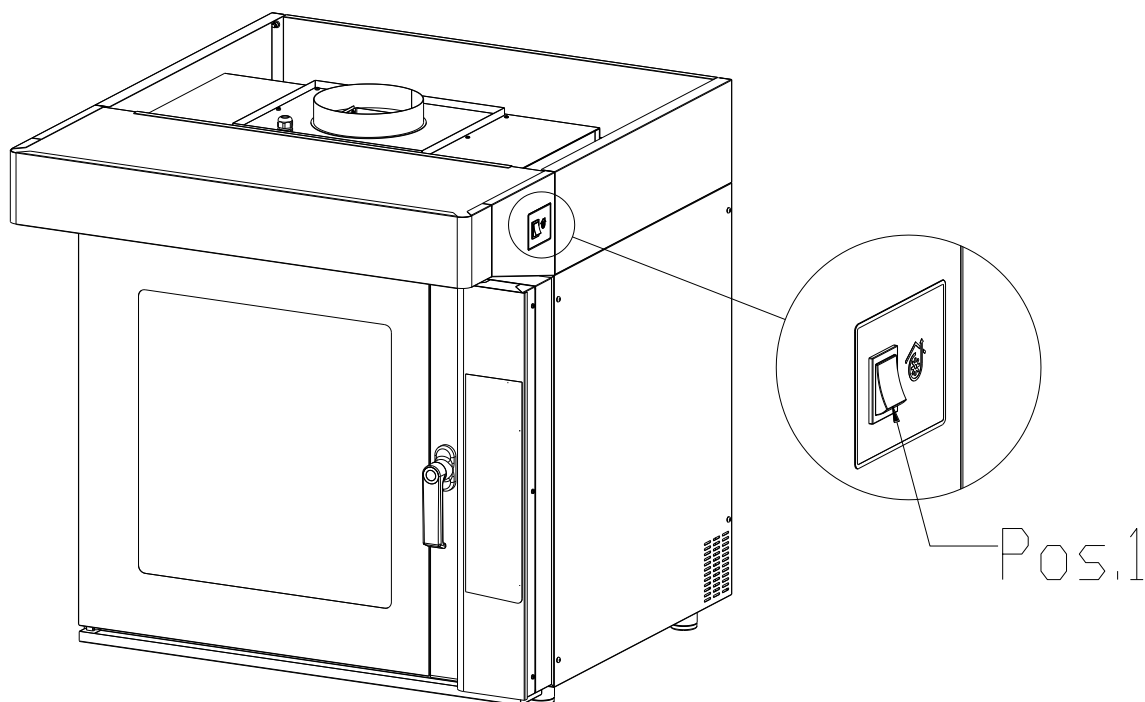

Fig. 3.1 Control panel
- Turning the switch on the right front part of the hood (see Fig. 3.1 Pos.1) to position "I" starts suction in manual mode for an infinite time.